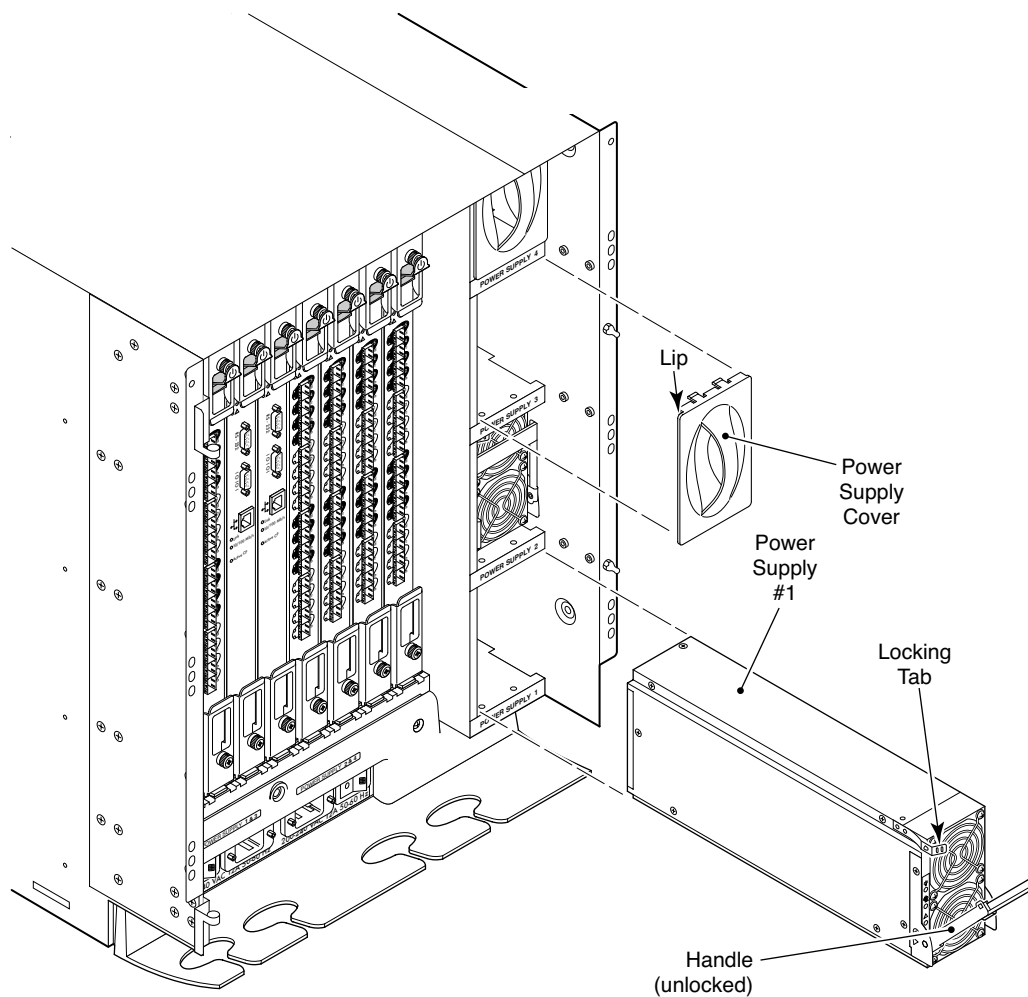

Figure 26 Power supply removal and replacement
2. Remove the current power supply from the chassis (see Figure 26).